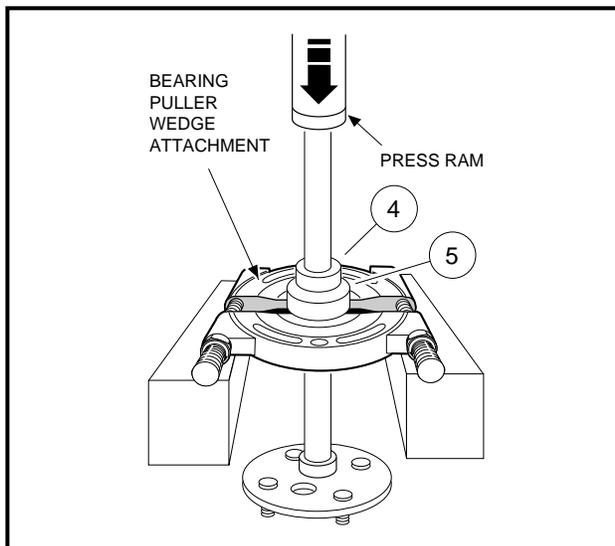

Figure 16-6 Bearing and Collar
3. Press bearing (5) and collar (4) off together (Figure 16-6). See following CAUTION and NOTE.